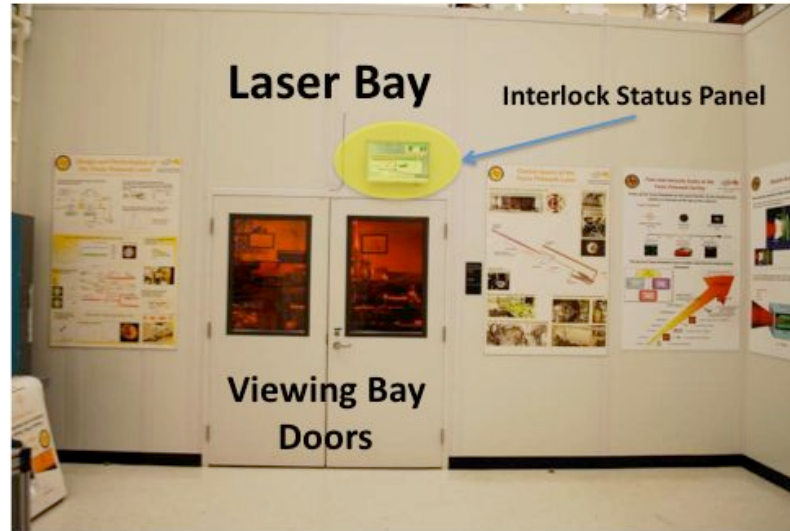

Figure 9. Photo of Laser Bay Viewing Area with ISP location.
- View an ISP either over the viewing window of the cleanroom or in the gowning room and determine the level of laser hazard. Figure 9 below shows a photo of the viewing area ISP location.